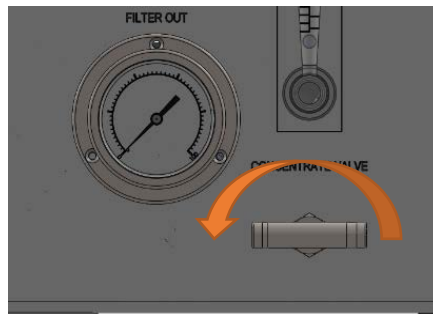

Figure 6
2. Once the vessel's tank is full, press the STOP button (Figure 6).